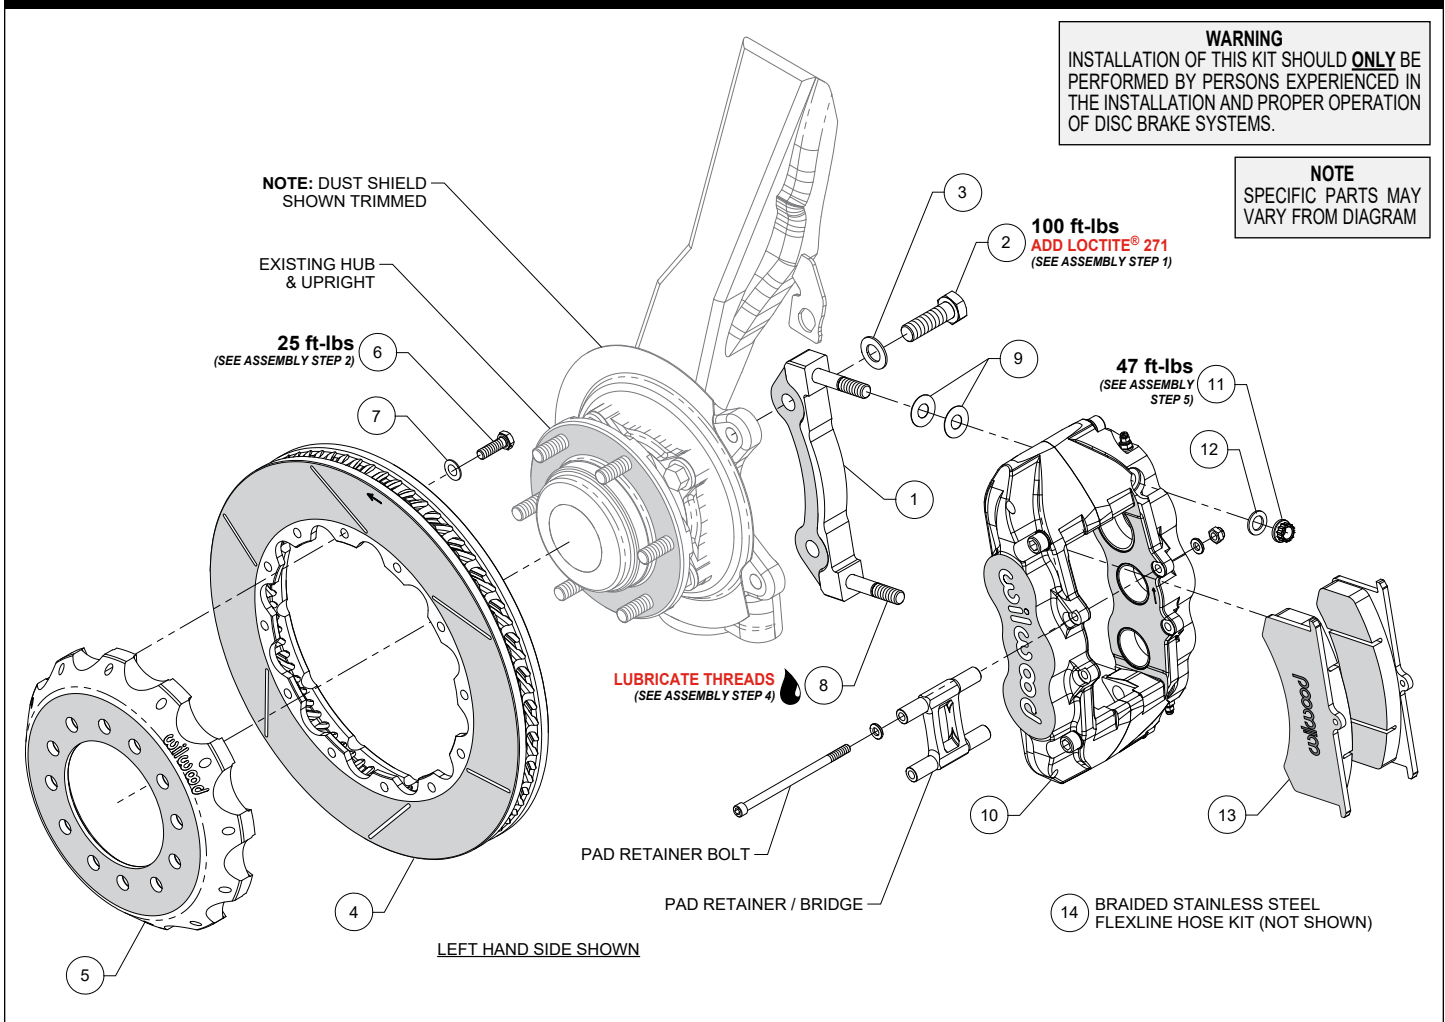
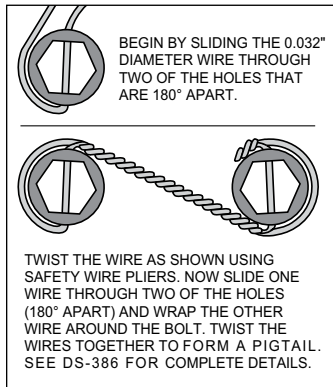

Figure 1. Typical Installation Configuration
Figure 4.
NOTE: Numbers in parenthesis refer to the parts list and Figure 1 on the preceding pages.
STEP 1 Orient the caliper mounting bracket (1), as shown in Figure 1 and Photo 1. Install using bolts (2) and washers (3). Apply red *Loctite*® 271 to the bolt threads and torque to value shown in Figure 1.
STEP 2 Orient the rotor (4) and the hat (5) as shown in Figure 1 and Photo 2. Attach rotor to hat using bolts (6) and washers (7). Torque bolts (6) to value shown in Figure 1 using a criss-cross pattern. Safety wire bolts using standard 0.032 inch diameter stainless steel safety wire as shown in Figure 4. Please refer to Wilwood's data sheet DS-386 (available at www.wilwood.com/Pdf/DataSheets/ds386.pdf) for complete safety wire installation instructions.
STEP 4 NOTE: This kit contains distinct right and left hand calipers that must be mounted in a specific direction, as described below. Lubricate the caliper mounting studs (8) with lightweight oil. Initially place two .016" thick shims (9) on each stud as shown in Figure 1 and Photo 4. Mount the caliper (10) onto the bracket (1) using lock nuts (11) and washers (12), Figure 1. Ensure that the caliper is mounted so that the largest pistons are at the rotor exit end of the caliper, in relation to the direction of rotor rotation. Temporarily tighten the lock nuts (11).
STEP 5 Remove the caliper pad retainer/bridge, bolts, washers, and lock nuts from the caliper as shown in Figure 1. Insert the brake
pads (13) into the caliper, with the friction material facing the rotor. Check that the top of the brake pad is flush with the outside diameter of the rotor, Photo 5. If not, adjust by adding or subtracting shims (9) between the caliper and the bracket. After the caliper pad height is set, reinstall the center pad retainer/bridge, bolts, washers, and lock nuts, Photo 6. The lock nuts should be snug without play in the bolts or retainer. Be cautious not to over tighten. Torque the caliper lock nuts (11) to value shown in Figure 1.